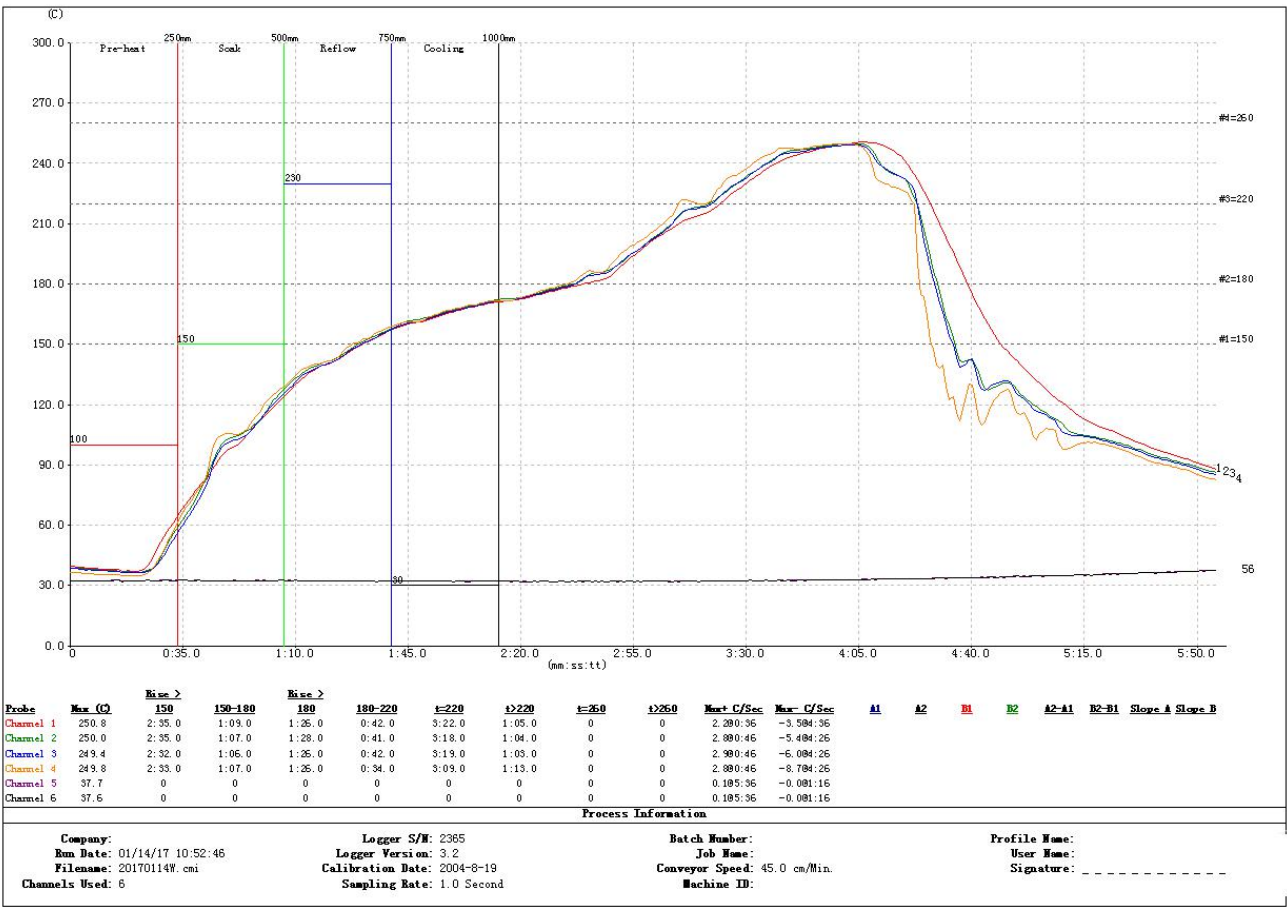

Figure 8 Temperature Curve of Secondary Reflow
- (1) Cabinet type oven
- (2) Anti-static and high thermos tolerant tray
- (3) Anti-static and high thermos tolerant gloves
- Conditions of product storage (Storage environment is shown in figure 8):